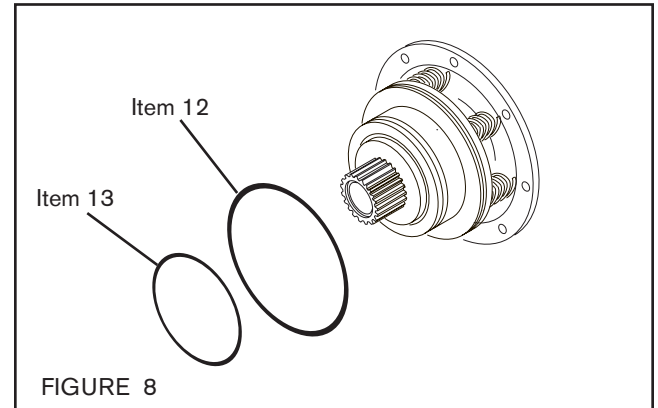

FIGURE 8
1. Remove old O-ring Seals (Items 12 & 13) (See Figure 8).